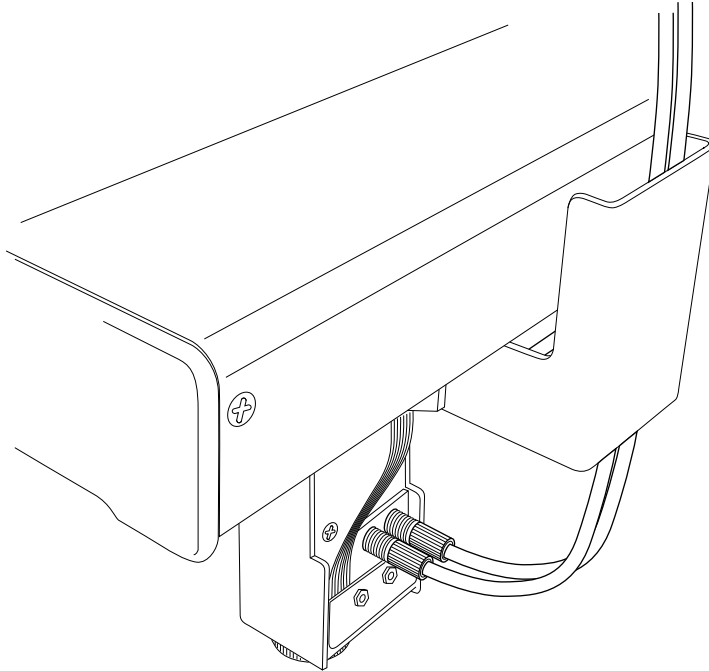

Figure 2-8 Connections to standard diverter valve
11. Connect the Waste line to the right-side port (when viewed from the back of the diverter valve). Route the other end to a waste collection container. The completed connections should appear as shown in Figure 2-8.